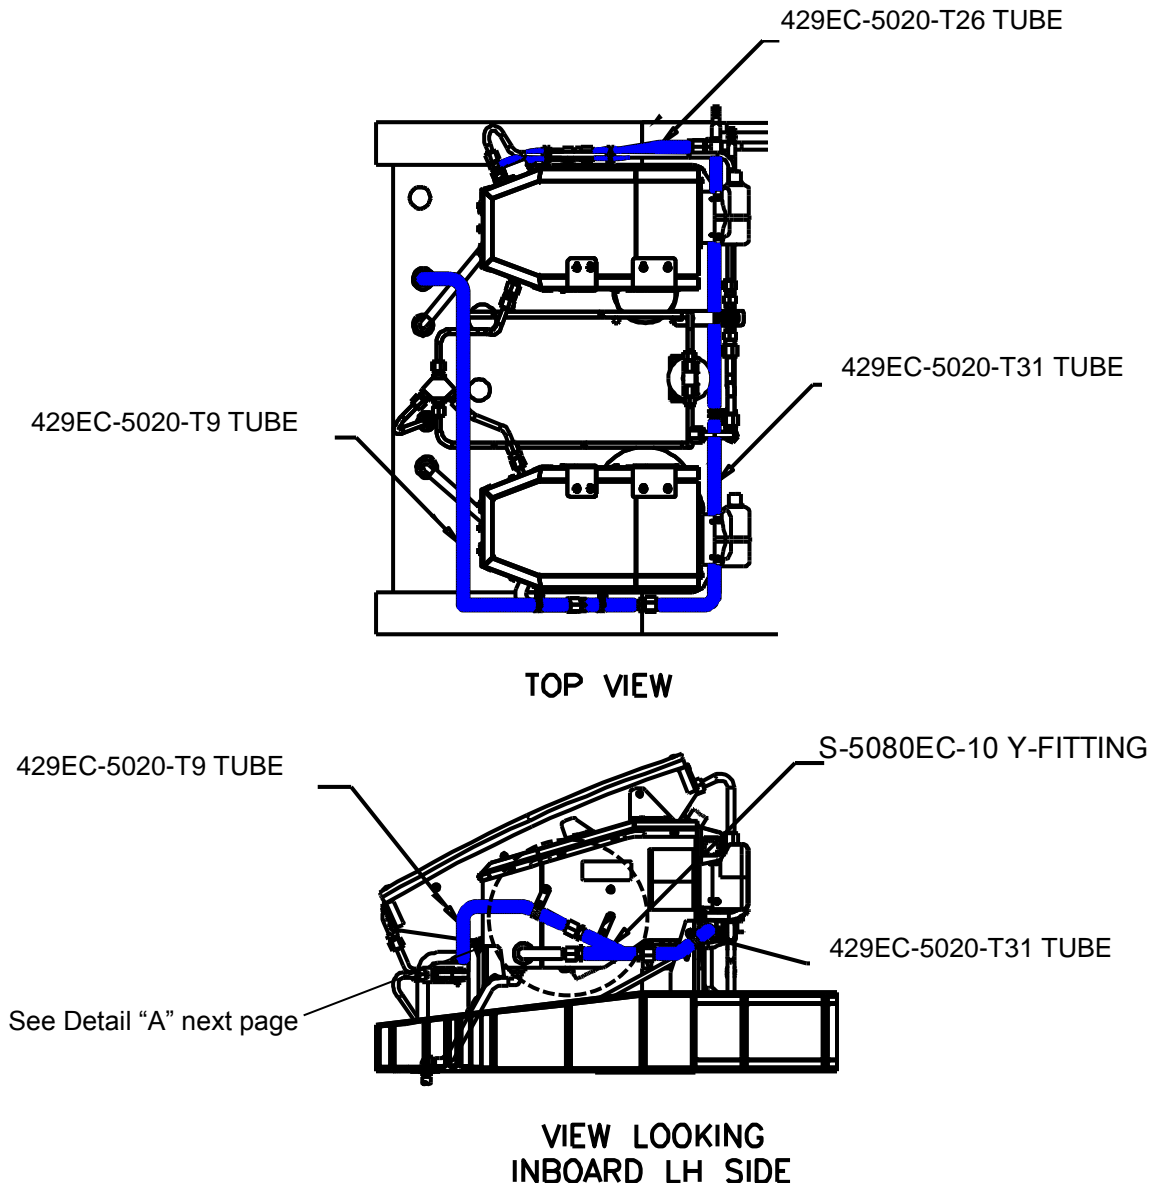

Figure 28: DUAL EVAPORATOR CONFIGURATION. Insulate tubing and Y-fitting with ES02127-10 Firesleeve. Seal ends with 1-608036-4 fusion tape.
- 1) Dual Evaporator Systems: Disconnect tube assemblies 429EC-5020-T9, 429EC-5020-T26, 429EC-5020-T31 and Y-fitting S-5080EC-10 (Figure 28). Cover tubes and Y-fitting with ES02127-10 firesleeve. Trim to fit. Seal ends with 1-608036-4 fusion tape.